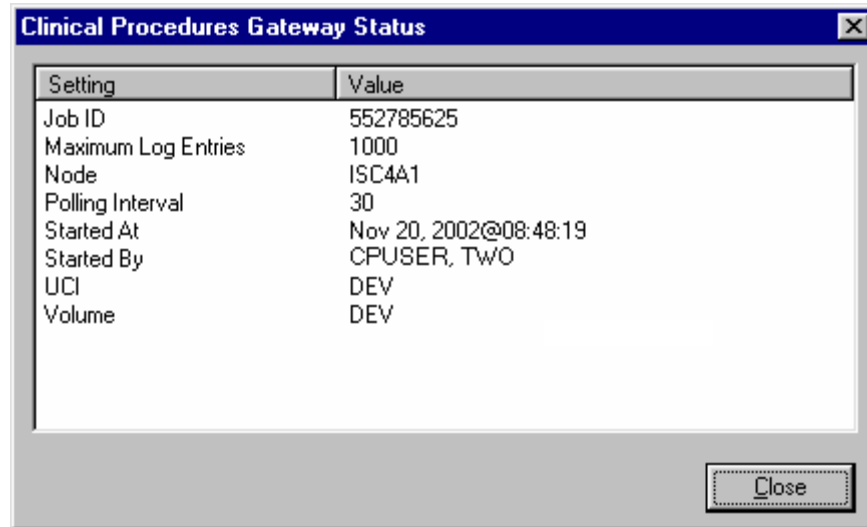

Figure 11-3
- Choose **File > Status**. The server settings are displayed, Figure 11-3.